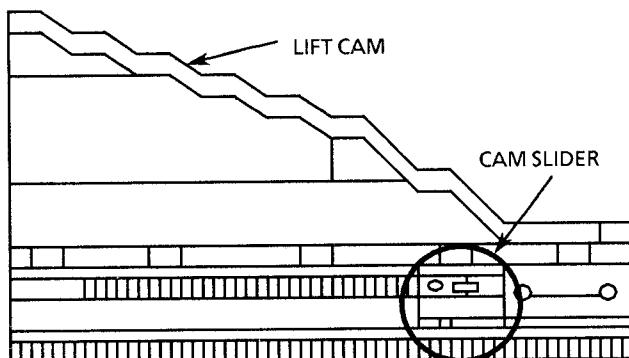

Fig.7
* The LIFT CAM can be released, After removing the LIFTER UNIT Ass'y (Fig.7)
- 1) When installing the lift cam, Put the cam slider to the position shown in fig 7.